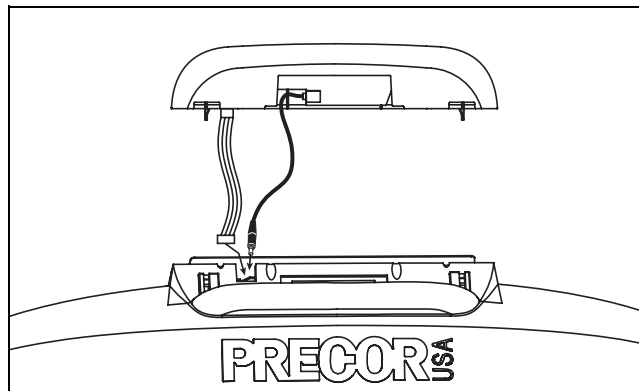

Figure 15: Feed cables through the entertainment option cover
8. Hold the integrated receiver above the display console, and feed the stereo plug (audio cable) through the opening in the base of the display console. Let the audio cable hang loose. See Figure 15.
9. Connect the 5-wire entertainment option cable to the display console. See Figure 15.